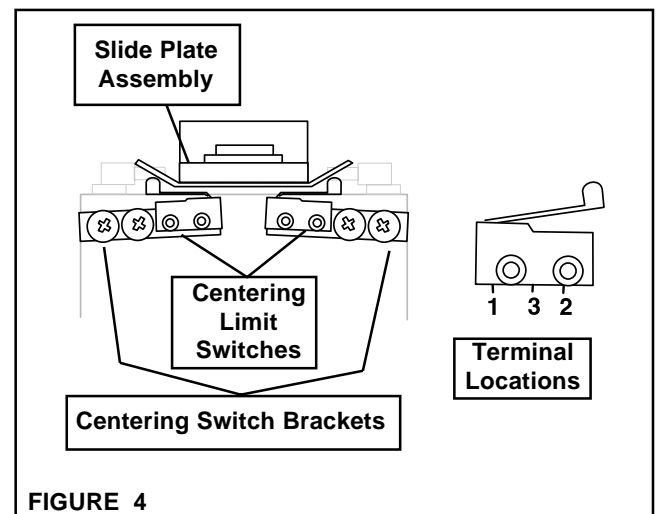

FIGURE 4
2. Using the Controller switches to actuate the motor, move the Slide Plate in either direction until it is centered on the base (See Figure 4).
4. Connect an ohmmeter across Terminals 1 and 3 of one Centering Limit Switch (See Figure 4).
7. Tighten the Pan Head Screws holding the Centering Switch Bracket (See Figure 4).